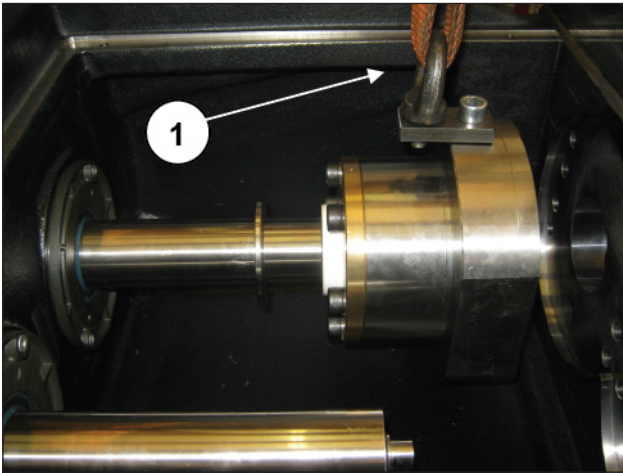

Fig. 204
Withdraw the sleeve support from the head by sliding it on the piston while supported at the eyebolt (pos. ①, Fig. 204) then undo the M10 piston fixing screw thus freeing the entire assembly, which can now be removed from the front casing (pos. ①, Fig. 205 and Fig. 206).